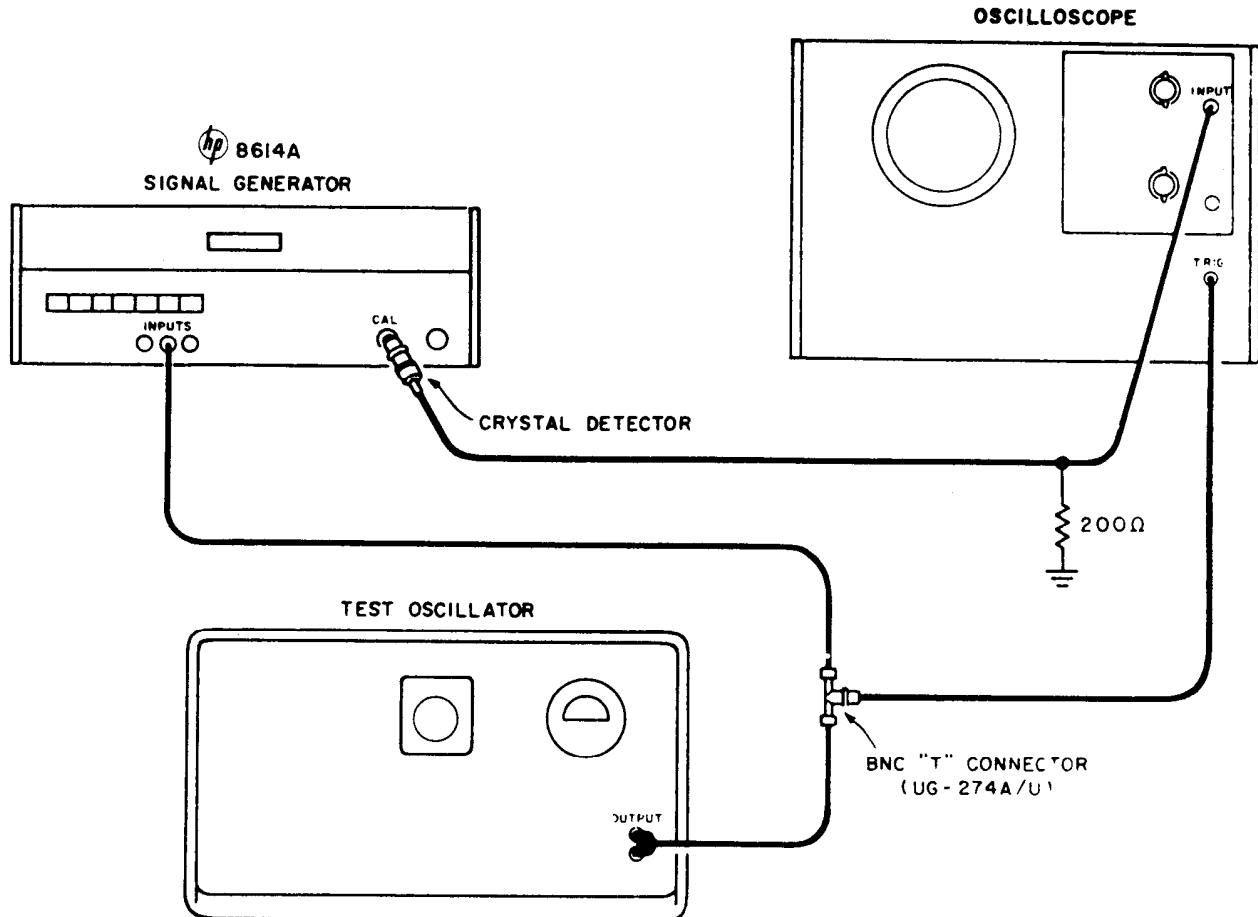

Figure 5-4. External AM Check (P/O Errata)
*Page 5-4, Figure 5-4:
Replace figure with attached Figure 5-4.